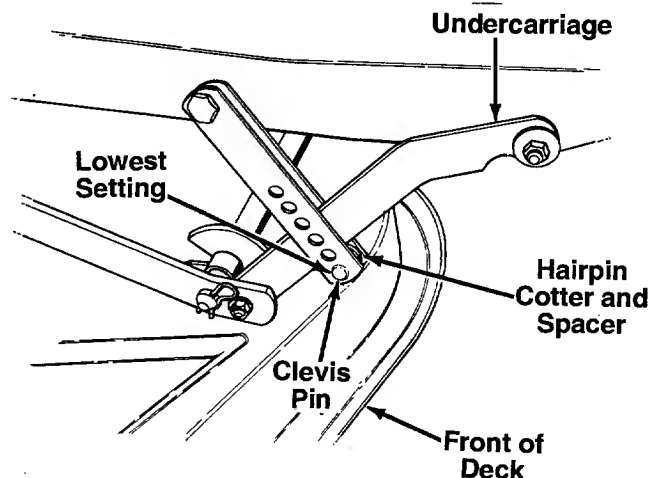

FIGURE 2.
1. The clevis pins, spacers and hairpin cotters on the front of the undercarriage must be set in the lowest position as shown in figure 2. Refer to "Undercarriage Locks" on page 17 of your tractor owner's guide if adjustment is required.
2. Remove the hairpin cotters, clevis pins and spacers from the undercarriage locks. Refer to figure 2.